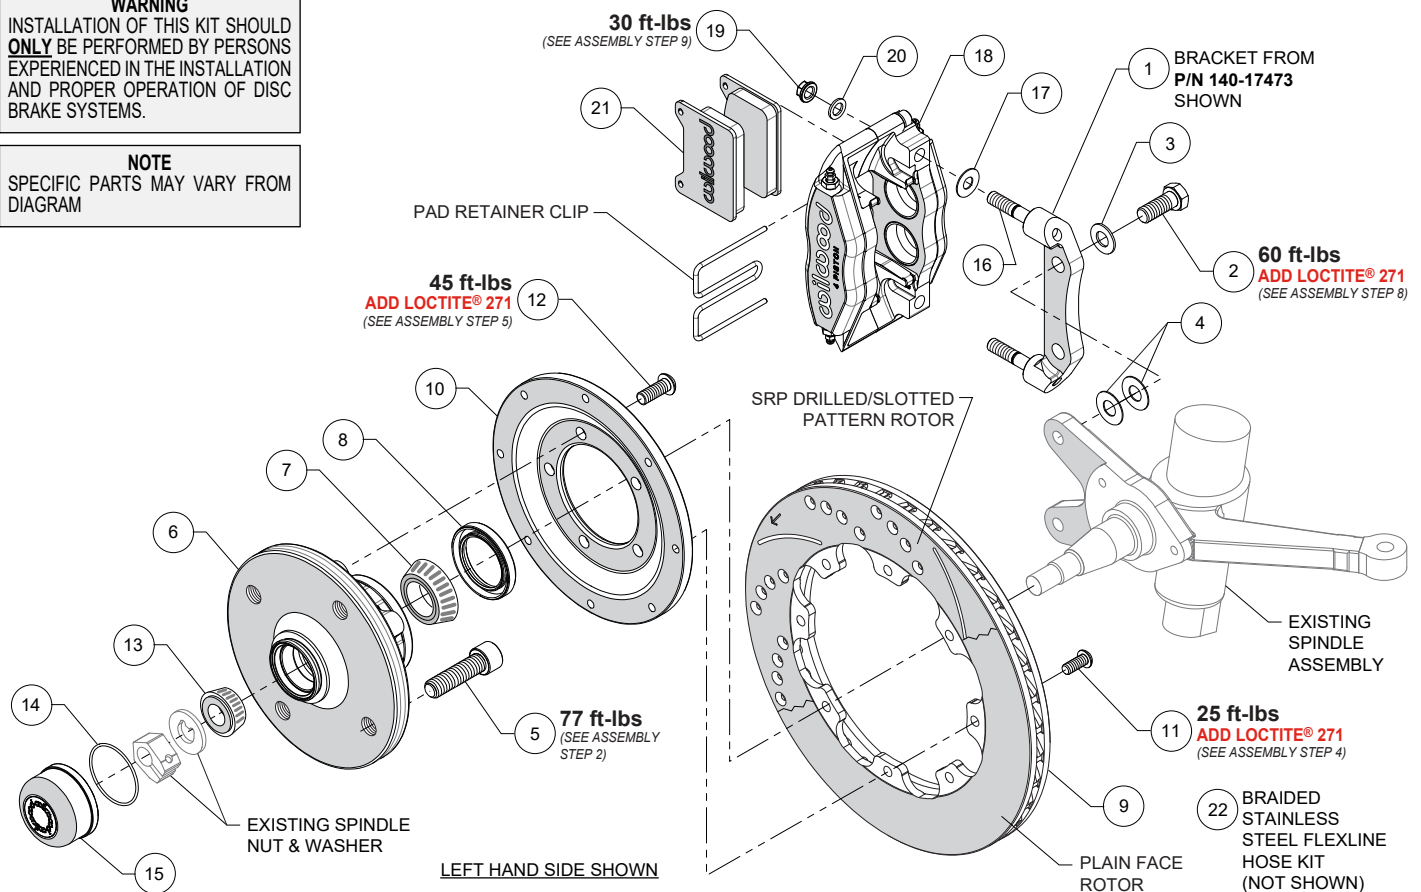

Figure 1. Typical Installation Configuration
NOTE: Numbers in parenthesis refer to the parts list and Figure 1 on the preceding pages.
STEP 1 The caliper mount bracket (1) should initially be installed with clean, dry threads on the mounting bolts. Orient the bracket as shown in Figure 1 and Photo 1, and install using bolts (2) and washers (3). Initially place two .033" thick shims (4) on each bolt between the bracket and upright, Figure 1 and Photo 1 (arrows). Temporarily tighten the mounting bolts. **NOTE:** The bracket must fit squarely against the mount bosses on the upright. Inspect for interference from casting irregularities, machining ridges, burrs, etc. Later, after the caliper alignment has been checked, the mount bolts will be secured using red *Loctite*® 271.
STEP 2 Install wheel studs (5) into the hub (6), Photo 2. Torque to value shown in Figure 1. Ensure the hub stud pattern matches the stud pattern of the wheel being used.
STEP 3 Pack the large inner bearing cone (7) with high temperature disc brake bearing grease (available from your local auto parts store) and install into the backside of the hub (6), Figure 1.
STEP 5 Install the grease seal (8) by pressing into the backside of the hub (6), flush with the end of the hub, Photo 3.
STEP 4 Orient the rotor (9) and the rotor adapter (10) as shown in Figure 1 and Photo 4. Attach rotor to the adapter using bolts (11). Apply red *Loctite*® 271 to the bolt threads and torque to value shown in Figure 1 using a criss-cross pattern.
STEP 5 Mount the adapter/rotor assembly (9 and 10) to the hub (6) using bolts (12), as shown in Figure 1 and Photo 5. Apply red *Loctite*® 271 to the bolt threads and torque to value shown in Figure 1 using a criss-cross pattern.
STEP 6 Pack the small outer bearing cone (13) with high temperature disc brake bearing grease and install into hub (6). Slide the hub/rotor assembly onto the spindle, Photo 6. Secure using existing OEM spindle washer and spindle nut, Photo 7. Adjust bearings per OEM specifications.
STEP 7 Screw dust cap (15) onto hub, Photo 8. **NOTE:** *Friction created by the o-ring (14) on the dust cap keeps it from unscrewing.*
STEP 8 Mount the caliper (18) onto the caliper bracket studs (16). Initially place one .035" thick shim (17) on each stud as shown in Figure 1 and Photo 9. Mount the caliper (18) onto the bracket (1) using lock nuts (19) and washers (20), Figure 1. Temporarily tighten the lock nuts and view the rotor through the top opening of the caliper. The rotor should be centered in the caliper, Photo 10. If not, adjust by adding or subtracting shims (4) between the bracket and the upright. Always use the same amount of shims on each of the two mounting bolts. Once the caliper alignment is correct, remove the bracket mounting bolts (2) one at a time, apply red *Loctite*® 271 to the threads, and torque to value shown in Figure 1.
STEP 9 Remove the caliper pad retainer clip from the caliper. Insert the brake pads (21) into the caliper, with the friction material facing the rotor, as shown in Photo 11. Check that the top of the brake pad is flush with the outside diameter of the rotor, Photo 12. If not, adjust by adding or subtracting shims (17) between the caliper and the bracket. After the caliper pad height is set, reinstall the pad retainer clip, Photo 13. Torque the caliper lock nuts (19) to value shown in Figure 1.
STEP 11 Attach supplied brake line to caliper. **NOTE:** *OEM rubber brake hoses generally cannot be adapted to Wilwood calipers. Install Wilwood's braided stainless steel flexline hose kit (22), P/N 220-17482 included with this kit. A new grommet for the flexline is included. The caliper inlet fitting is a 1/8-27 NPT. Use the included steel adapter fitting at the caliper (use PTFE tape on the pipe threads of adapter fitting for proper sealing to caliper) and note final orientation of fitting. Route new flexline as shown, using the supplied grommet to secure line, Photo 14 (arrow). **Ensure hoses are routed to prevent contact with moving suspension, brake or wheel components.***